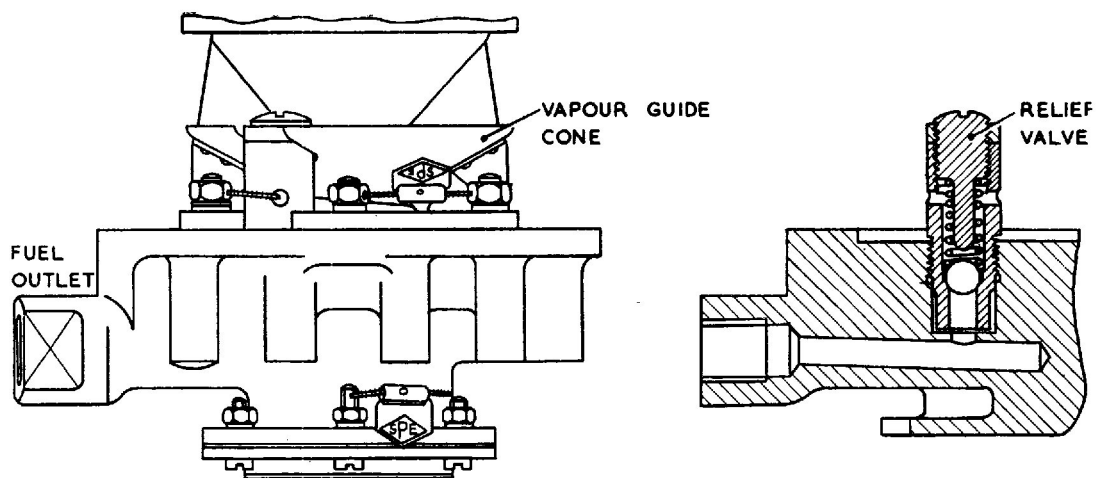

Fig. 2. Part sectional view of pump
4. The relief valve consists of a stainless steel ball, held on its seating by a calibrated spring which limits the delivery pressure to a pre-determined figure. As will be seen in fig. 2, the valve is fitted in a recess on the upper face of the pump base in the fuel delivery outlet line.